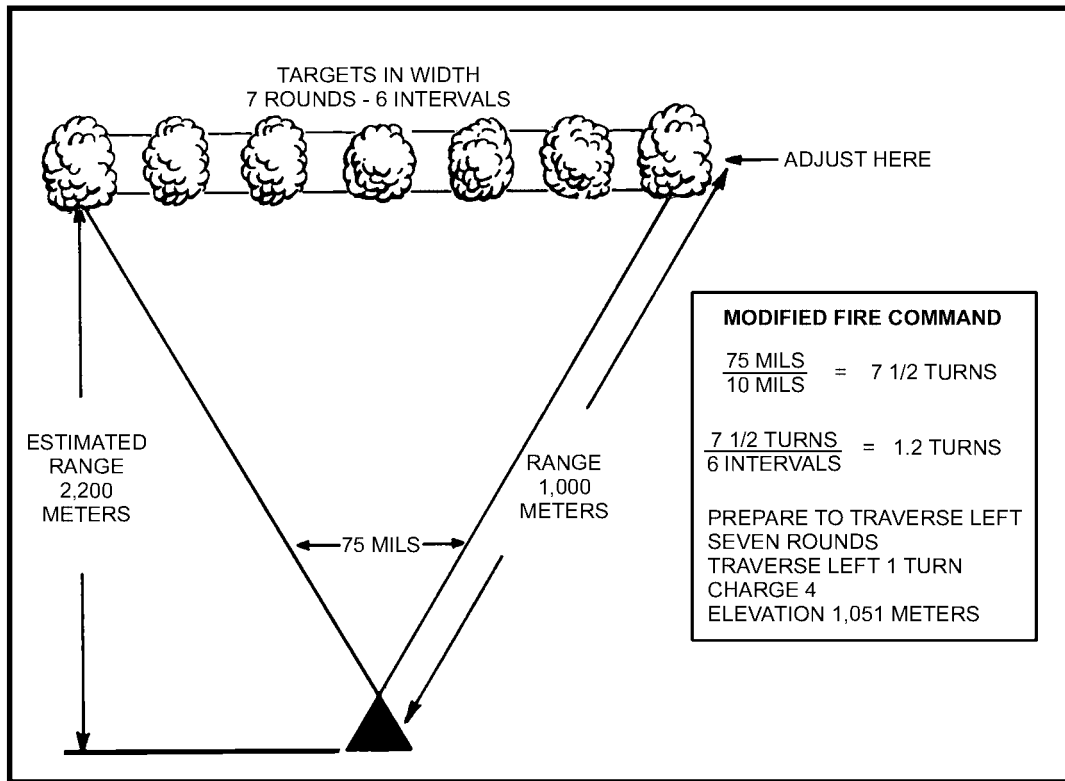

Figure 8-2. Traversing fire.
e. In Figure 8-2, the FO measures the width of his target to be 75 mils. Using a map, he estimates the range to be 2,200 meters. Using the mil relation formula, he determines the width of the target to be 165 meters and decides to attack the target with seven rounds. There will be six intervals between the seven rounds. Since the target is 75 mils wide, he determines the number of turns to be 7 1/2 turns. To determine the number of turns between rounds, he divides the number of turns by the number of intervals ($7 \frac{1}{2}$ divided by 6 = 1.07). This is rounded off to the nearest one-half turn (1 turn).